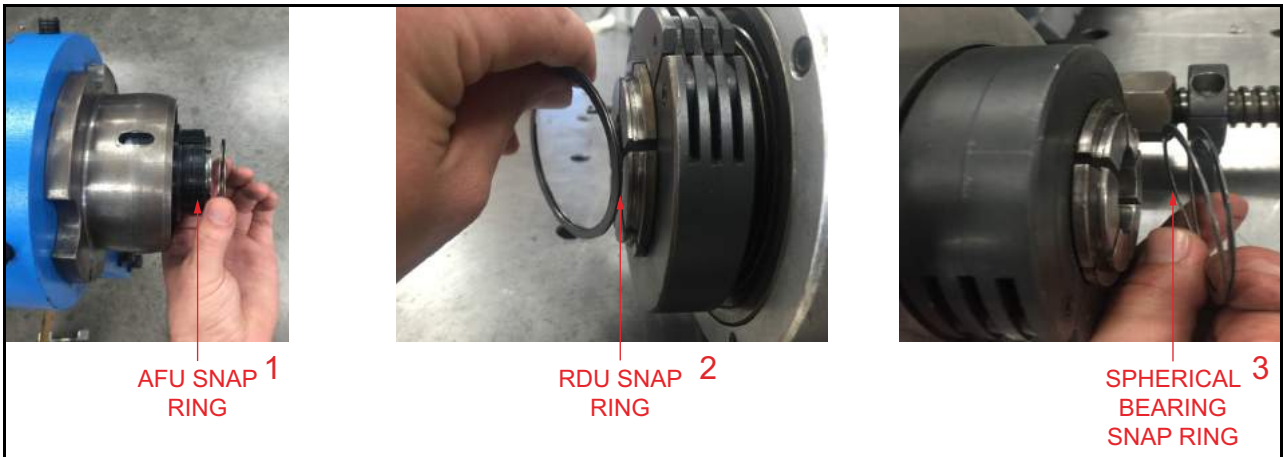

FIGURE 3-22. SNAP RING REPLACEMENT
- Replace the snap ring and install the 1-1/4" bar (see Figure 3-22 on page 50).